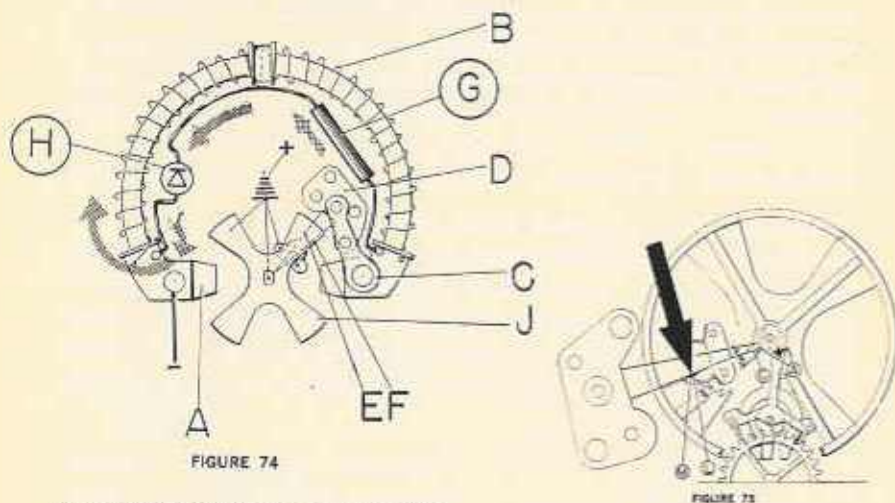

FIGURE 74
An instance of spark suppression can be seen in the Swiss electric watch, Landeron cal. 4750. Figure 74 is a schematic diagram of the watch's electrical system. In this case, the spark-suppressing parts are a resistor (G) and a diode (H).
When the balance is in the position shown in Figure 75, the contacts are about to part. The metallic tab A on the balance will move past the tip of spring C in the counter-clockwise direction. This spring will break the circuit when it springs back from contact beak L at point M. Because of the coil and core, a spark would occur at the gap between M and L. But, as indicated in Figure 74, the surge of voltage is diverted through the resistor, which absorbs some of the back current, and into the diode.
A diode, of which we will learn more later, is an electronic valve to permit electricity to flow in one direction only. In Figure 74, the diode permits the current to flow in the direction shown by the arrows. This surge of current flows into the left hand side of the coil, where the energy is dissipated.